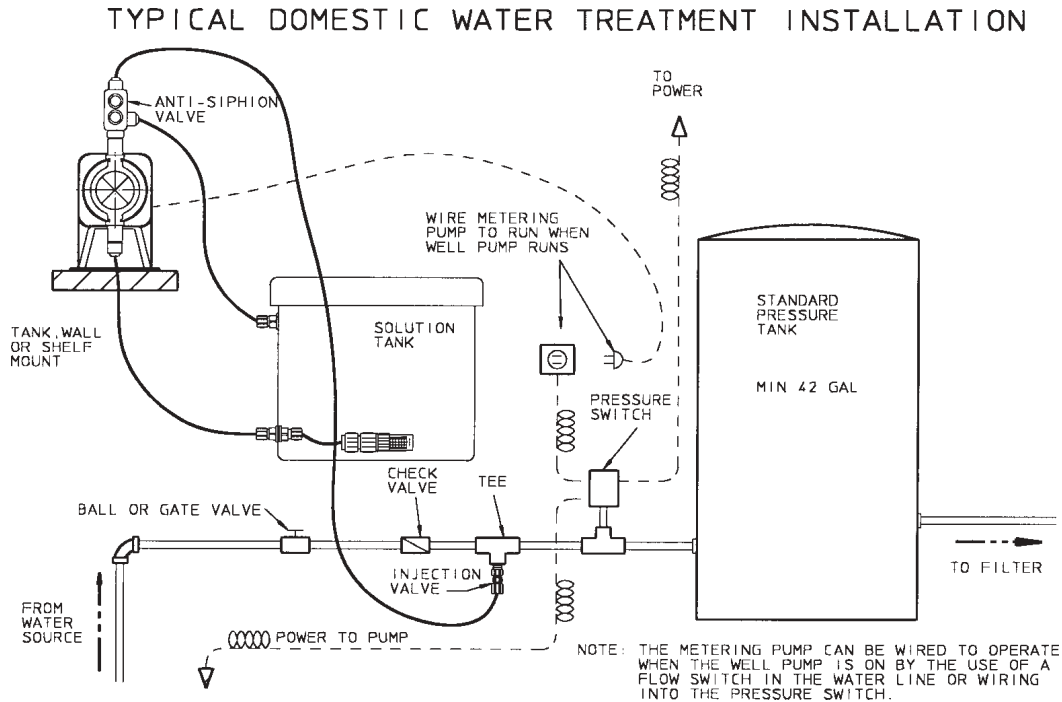

Figure 2.3
- The pump is designed to operate using a backpressure/injection valve. If the discharge point is below the liquid level of the source or if the discharge pressure is less than the suction pressure, syphoning may occur. To correct this condition, install an anti-syphon valve or other anti-syphon device. Check local regulations that may apply. (Refer to Figure 2.3 in Section 2.)
pressure. This can occur if the injection point is on the suction side of a water pump or against a “negative” head, such as when feeding down into a well (see Figure 2.3).